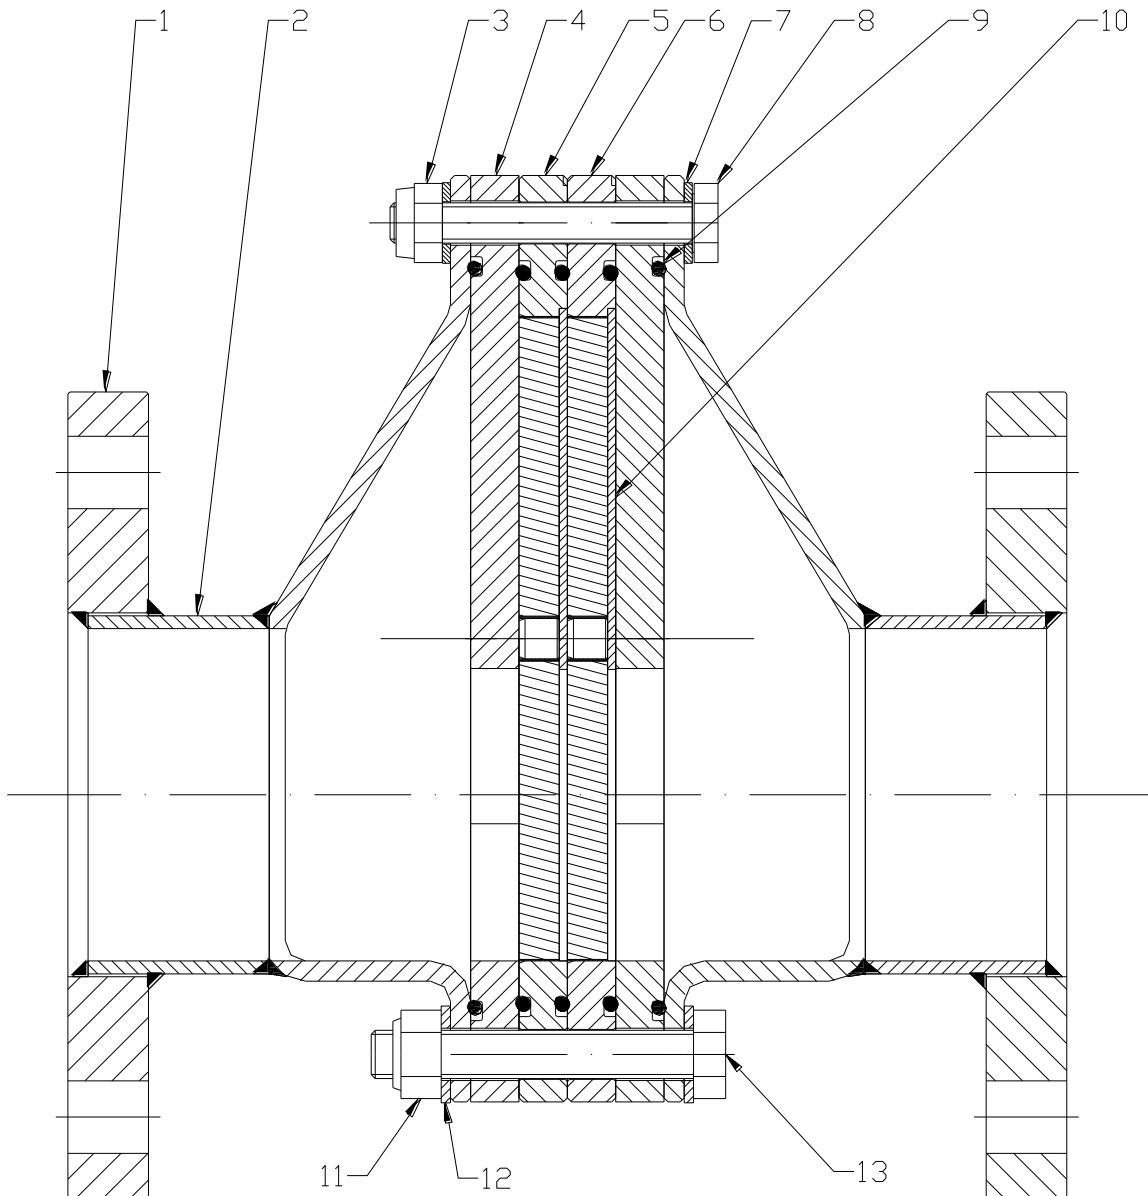

Fig. 1
(See figure 1)
To prevent high pressure losses in case of liquid condensate the flame arrester should be mounted as shown in figure 1.
After cleaning, reassemble in reverse order in accordance with fig.1.
- Spare part no. (Please refer to **fig. 1** for items)